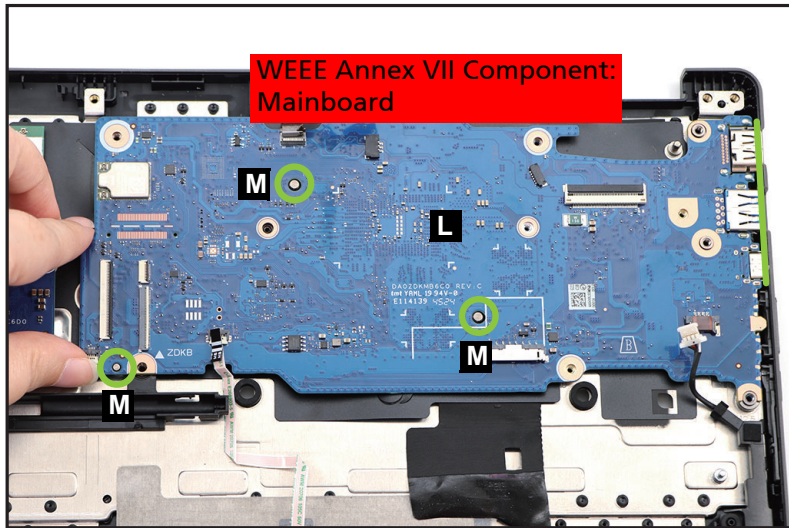

Figure 1-28. Mainboard Removal
11. Release the mainboard (L) from the I/O ports slots and guide pins (M) on the top assembly (Figure 1-28). Then remove the mainboard.